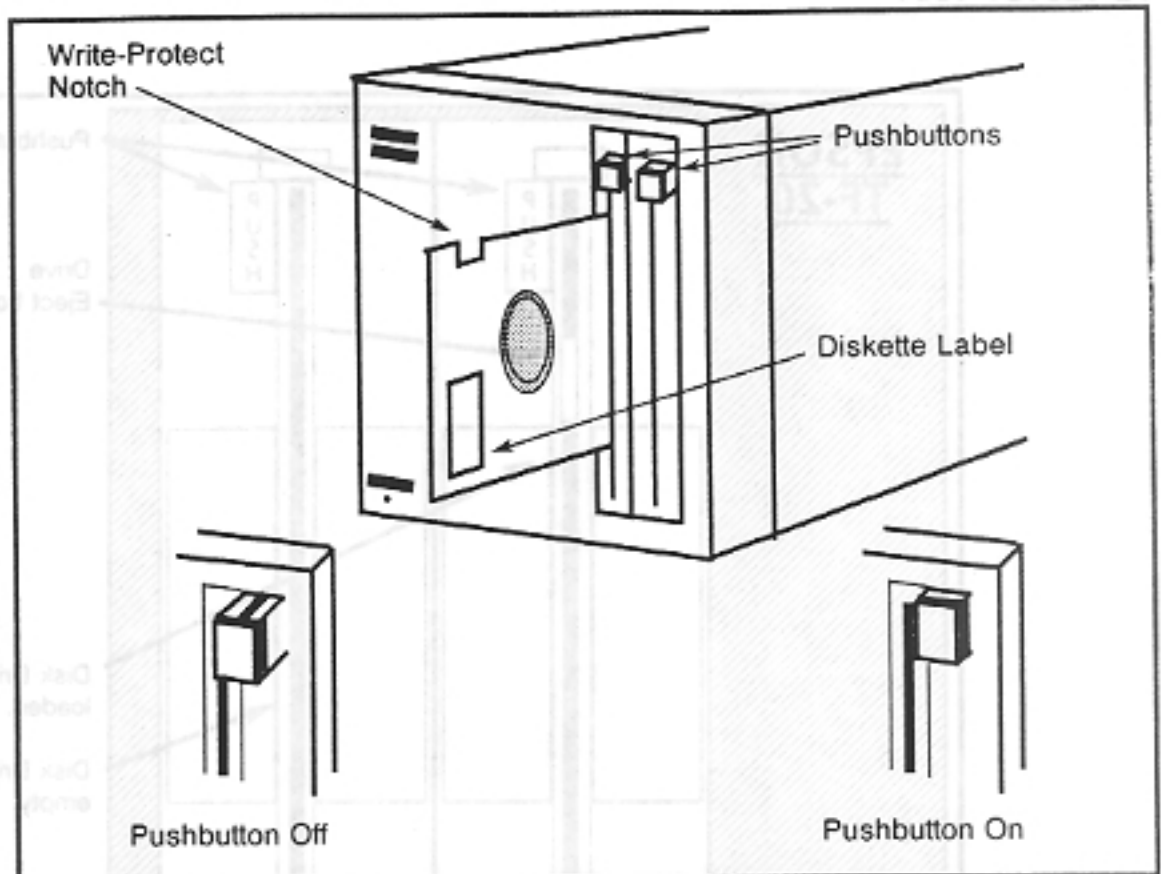

Figure 7.6 Loading the Disk Drive
2. Slowly insert the floppy diskette into the drive with the write protect notch up and the diskette label to the right (Figure 7.6).